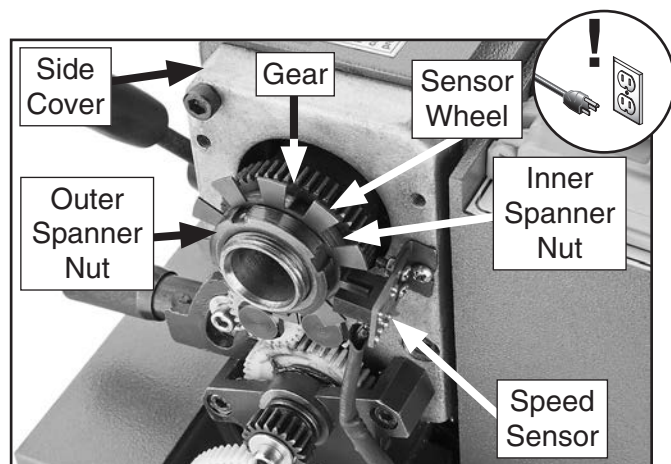

Figure 91. Components to be removed to replace timing belt.
3. Using a fine-tip felt marker, place alignment marks on inner spanner nut and gear shown in **Figure 91**. The purpose of these marks is to help re-install the outer spanner nut.